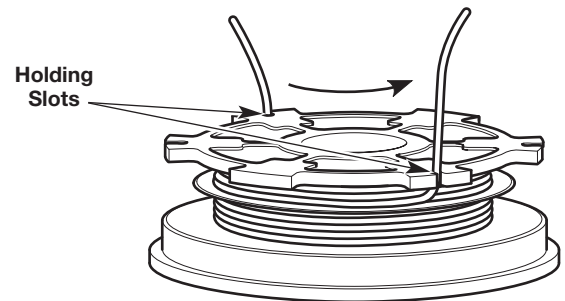

Fig. 23
3. Insert the two 6-inch ends into the two .095 holding slots (Fig. 23).
4. Insert the two 6-inch ends into the two .095 holding slots (Fig. 23).